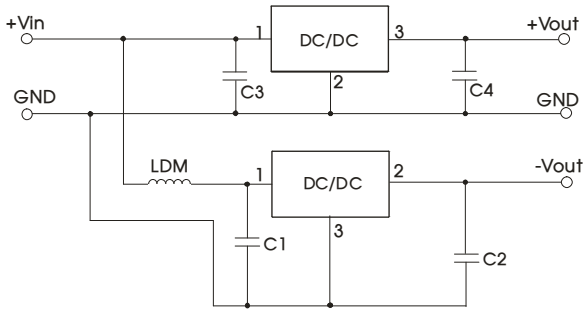

Fig. 3 Positive and Negative output application circuit
- 3.When using configurations as shown in figure 3, we recommended to add an inductor (LDM) with a value of up to 10 $\mu$ H which helps reducing mutual interference;
- 5.To further reduce the output ripple and noise, we suggested the use of a "LC" filter at the output terminals, with an inductor value (L) of 10 $\mu$ H-47 $\mu$ H.